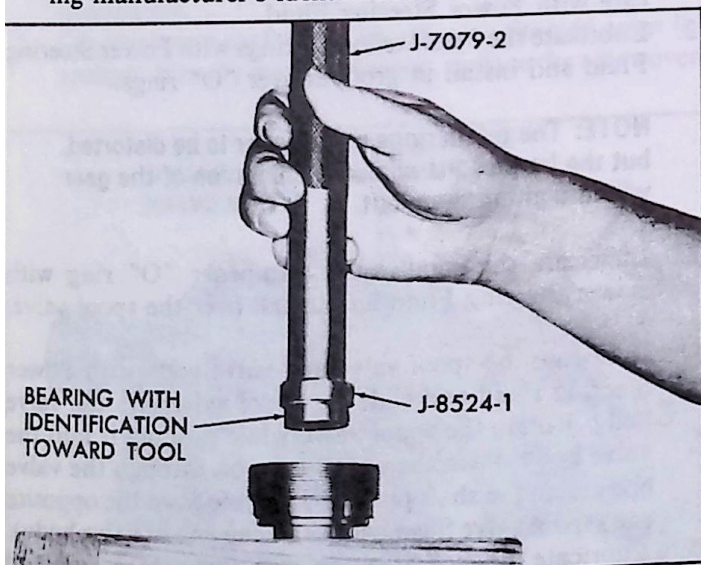

Fig. 40-Installing Bearing
- drive the bearing into the adjuster plug until the tool bottoms in the housing (fig. 40).